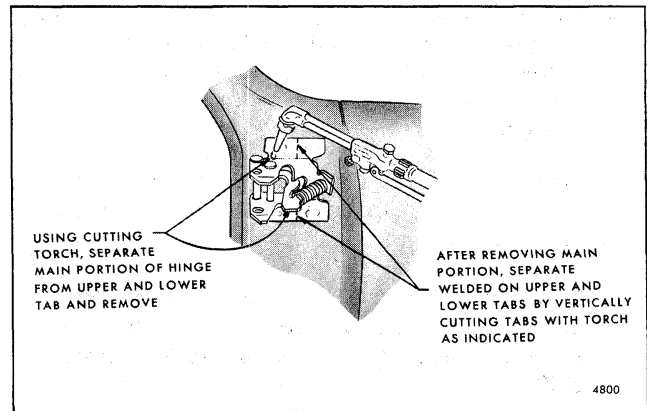

Fig. 5-87-Body Side Door Hinge Strap Removal - "H" Styles
4. Using a cutting torch, separate main portion of hinge, including hold-open link and spring, from upper and lower tabs. After main portion has been removed, vertically cut upper and lower hinge tabs with cutting torch as shown in Figure 5-87.